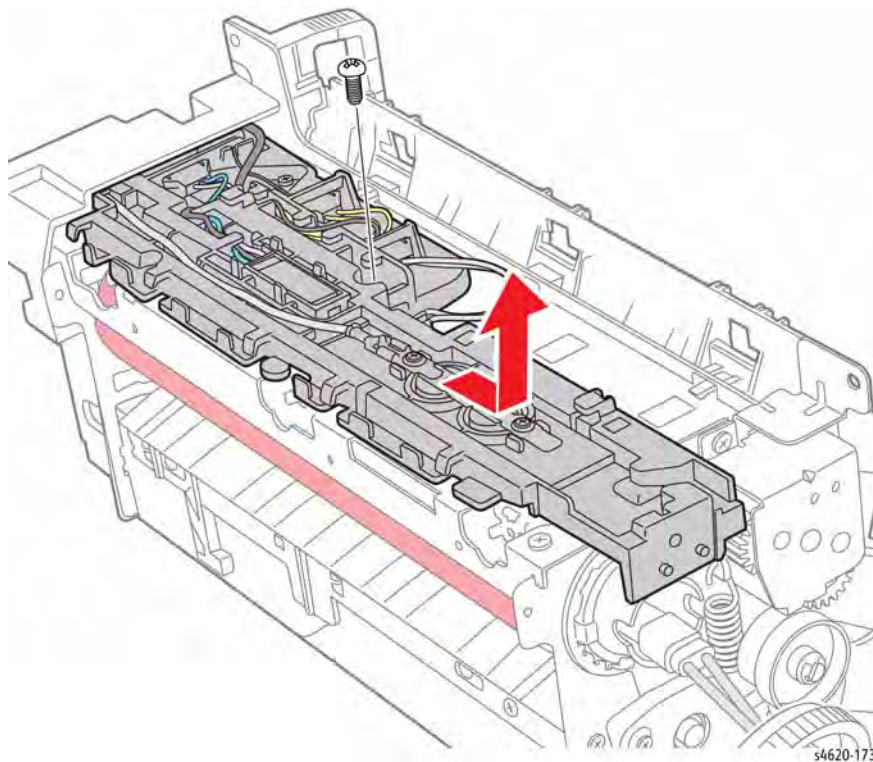

Figure 9 Remove the thermostat holder
11. Remove 1 screw that secures the Thermostat holder to the Fuser and move the holder right to release the hooks, Figure 9.